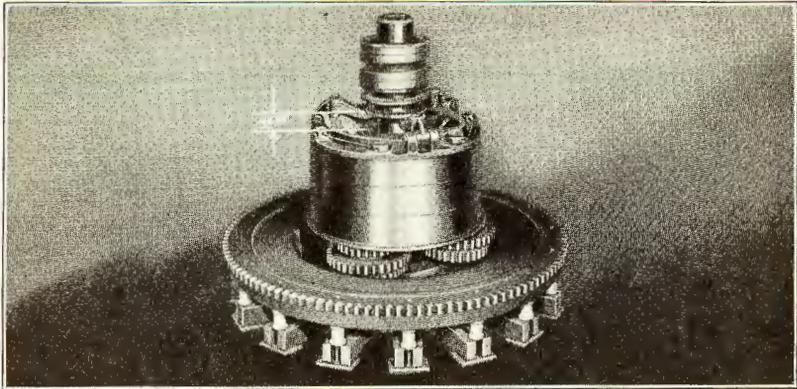

Fig. 206
- 315 Adjust the three clutch finger screws until there is a clearance of $\frac{13}{16}$ " between lower side of clutch shift and drive plate shaft flange (See Fig. 206). The adjusting screws are then locked in position by inserting cotter keys through fingers and screws.